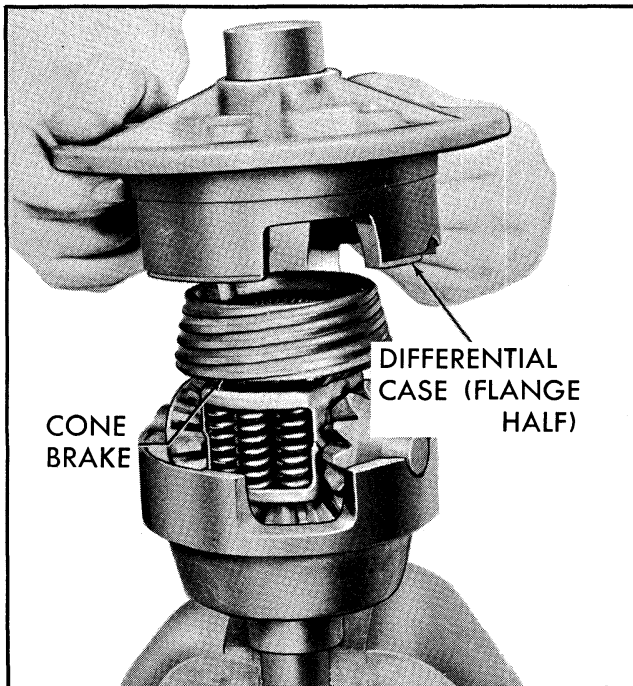

Fig. 4-52 Installing Flange Half of Differential Case
8. Install flange side of differential assembly over cone in proper position to match alignment marks; insert two bolts finger tight 180° apart. Fig. 4-52.